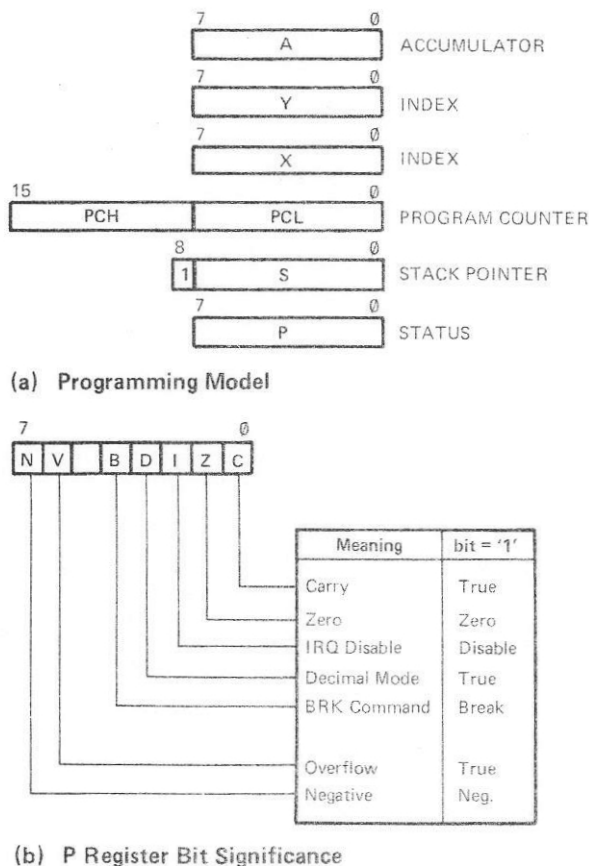

Figure 3. Microprocessor Registers
The 6502A Microprocessor internal registers are as shown on Figure 3. The functions of the registers are as follows:
- *Accumulator (A)*. An 8 bit general purpose register used with the Arithmetic Logic Unit (ALU) for instruction execution. The A Register contents are not saved when an interrupt occurs.
- *Program Counter (PC)*. A 16 bit register for the address of the instruction to be executed.
- *Stack Pointer (S)*. A 9 bit register for the current stack address. On reset the S Register contains the address 01FF Hexadecimal (hex).
- *Status (P)*, An 8 bit register that contains the microprocessor flags, refer to Figure 3. A '1' is loaded into the appropriate flag bit when a condition is true.